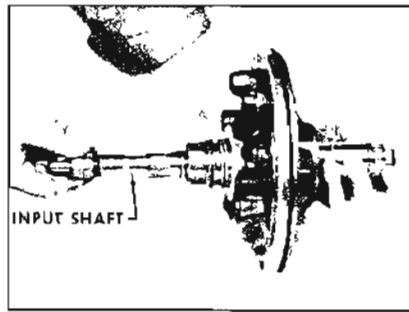

Figure 5-326
4. Coat input shaft oil rings with oil and install into oil pump. Then install pump into case. Apply a thin coat of oil around edge of pump. See Figure 5-326.